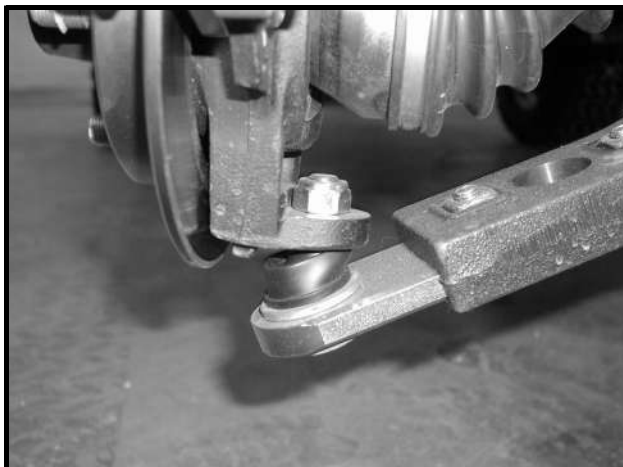

Figure 7-27 Lower Ball Joint
3. Install the lower ball joint onto the upright lower tab (**Figure 7-27, Page 7-14**).